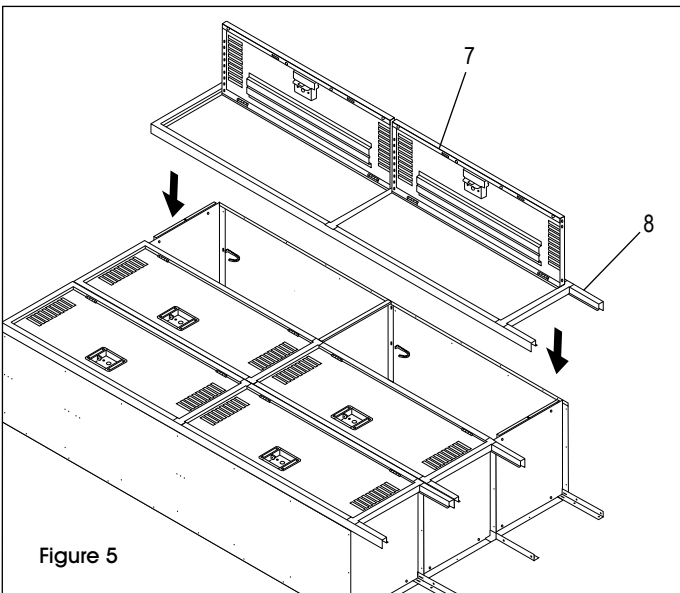

Figure 5
10. Place door and frame assembly (7 & 8) over the locker body. Make certain the body sides are inside the frame and not between the frames. Attach top to frame header and bottom to frame sill (one bolt each). Finish by attaching the door and frame assembly to the sides of the locker body (bolts will be shared with the door and frame on either side of them). (See Figure 5) If joining a 3-wide unit beside another unit see JOINING UNITS TOGETHER below.